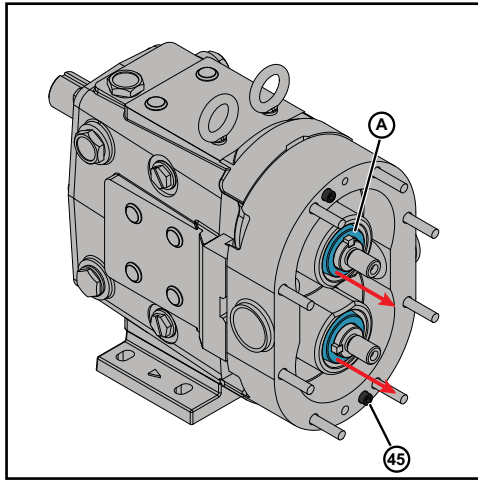

Figure 87 - Install Cap screw
4. Secure the pump body to the gear case using two cap screws (45).
5. Remove both the installation guide (A) from the pump body, as shown in Figure 87.